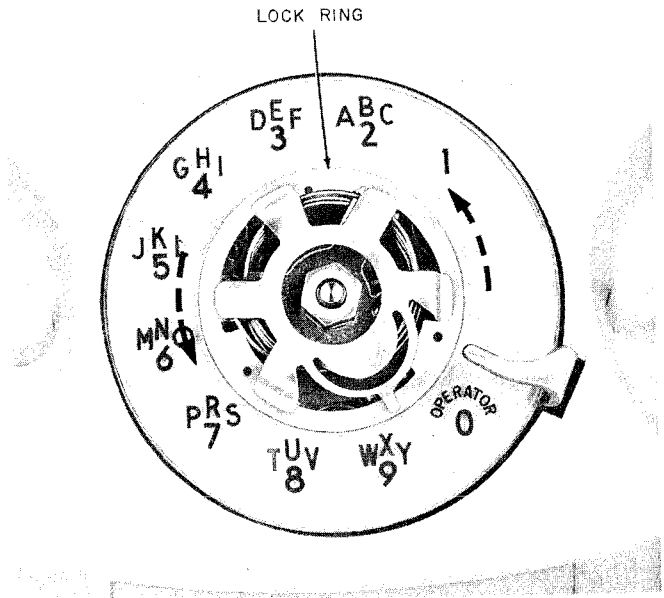

Fig. 22—8-Type Dial, Fingerwheel Removed to Show Lock Ring
- (1) Remove plastic fingerwheel (see 3.23).
- (2) Remove lock ring by rotating ring counterclockwise until it is free (Fig. 22). Then raise ring until it is just under clamp plate and slide toward rear of dial (Fig. 23) until upper end of ring can be lifted over clamp plate. Slide ring toward front of dial and remove.
- (3) Lift number plate off dial.
- (4) Before placing new number plate on the dial, wipe face of light shield clean.